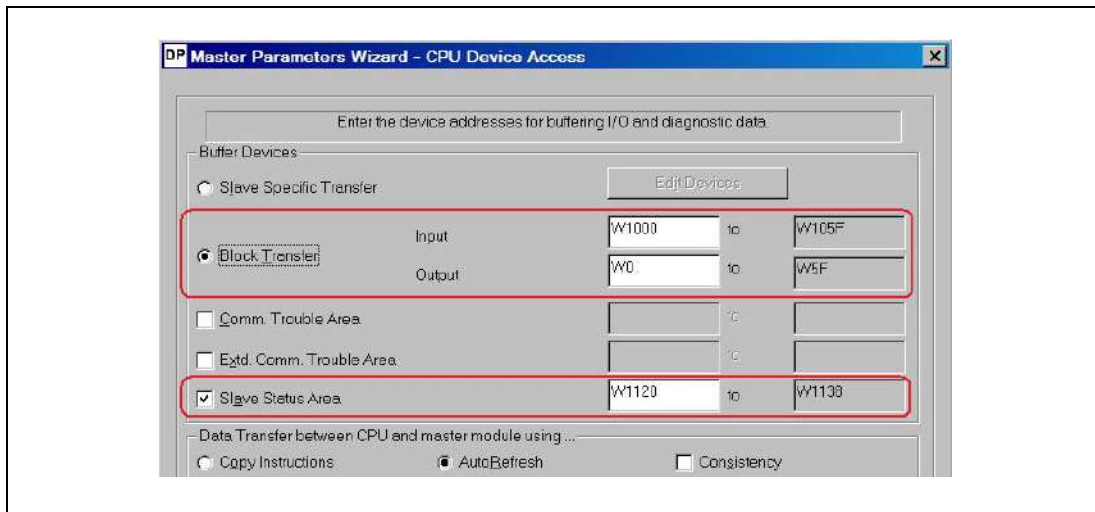

Fig. 7-28: Auto refresh settings
* The data transfer between the buffer memory of the ME1PB1-L and the CC-Link IE Field devices is set in the PROFIBUS DP auto refresh settings (refer to fig. 7-28). The data transfer between the CC-Link IE Field devices and the PLC devices is set in the refresh parameters of the CC-Link IE Field Master station (refer to fig. 7-27).